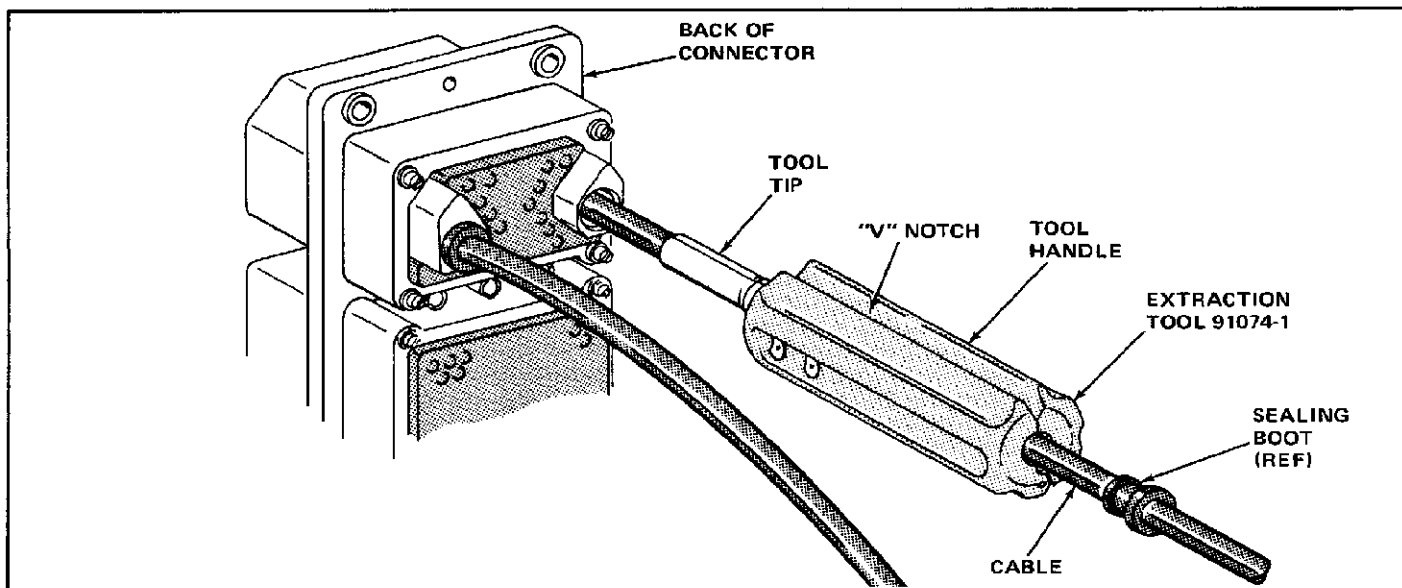

FIGURE 3
1. Place the cable over the "V" notch of the extraction tool handle. Then press the cable into the notch. The tool handle will spread open and allow the cable to enter. Make certain the cable is seated in the full length of the tool as shown in Figure 3.